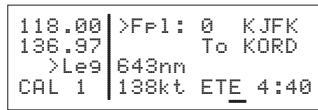

Figure 5-1
1. From the CAL 1 page (figure 5-1), turn on the cursor (**CRSR**). It will appear over a cyclic field that either displays **Wpt** (waypoint to waypoint) or **Fpl** (flight plan).